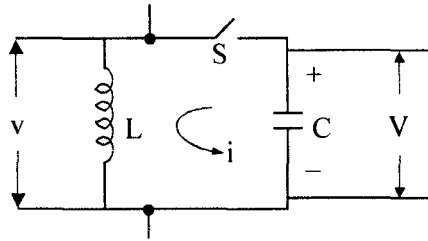

Fig. 8.2 LC Tank circuit.
4. **Harmonics** : Undesirable frequency components are harmonics. An elementary sinusoidal oscillator circuit is shown in Fig.8.2.